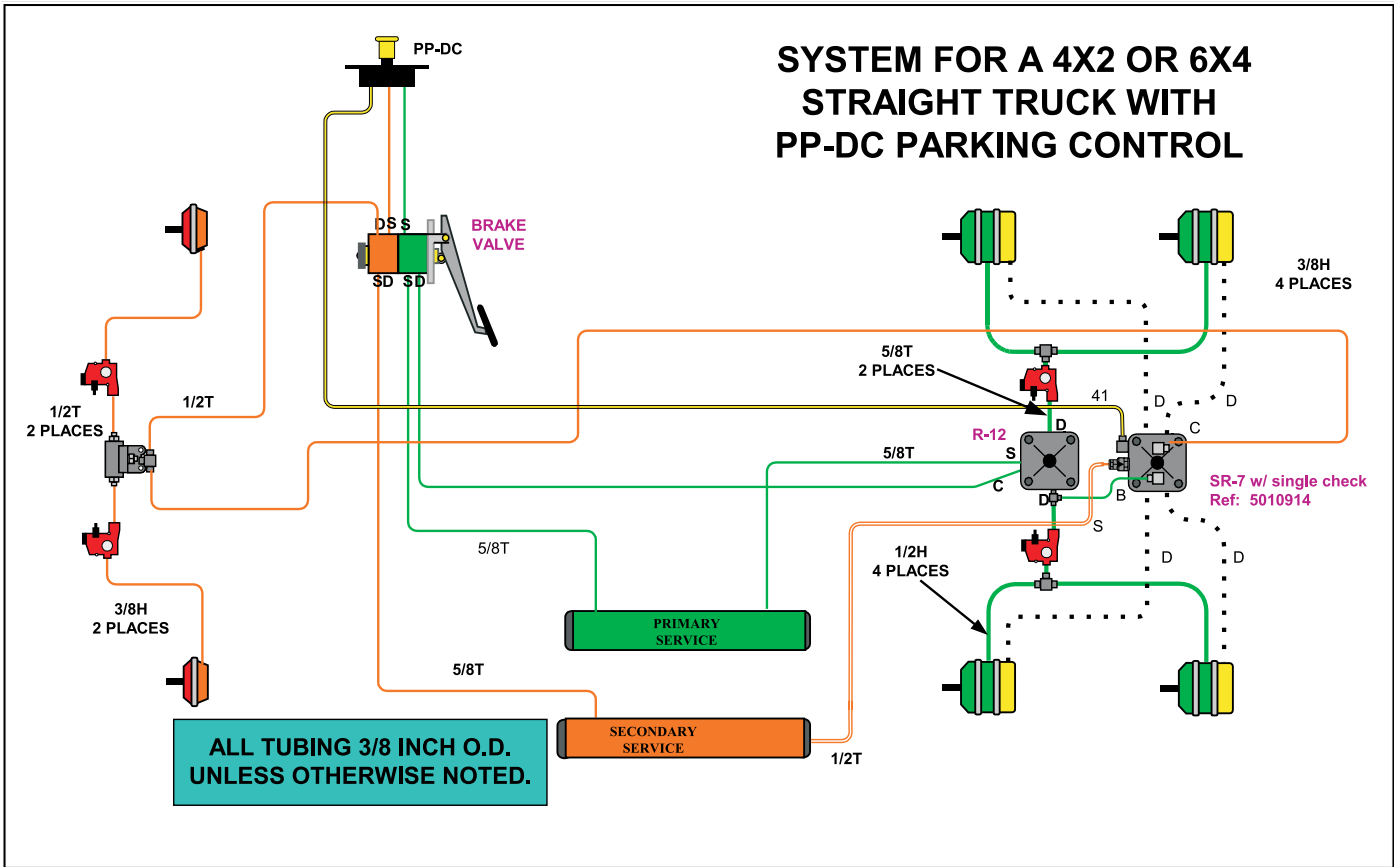

FIGURE 3 - SYSTEM SCHEMATIC WITH PP-DC PARK CONTROL
F. Sticking unloader pistons.	F. Check the operation of the unloading mechanism. Check for proper operation of the compressor air governor. Make certain the air connections between the governor and compressor are correct. Refer to figure 3. If the governor is operating properly, replace the unloader mechanism. Inspect for bent, linked or blocked tubing leading to or from the governor.
The operation guidelines shown in this manual represent the relay valve based SR-7 (refer to system schematic shown in figure 3). A quick release based valve functions similarly to the relay valve based version with the exception that all